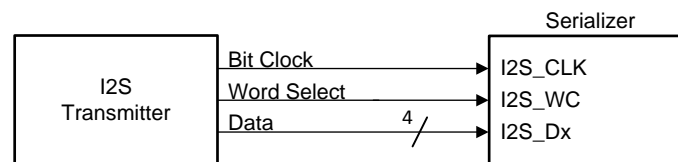
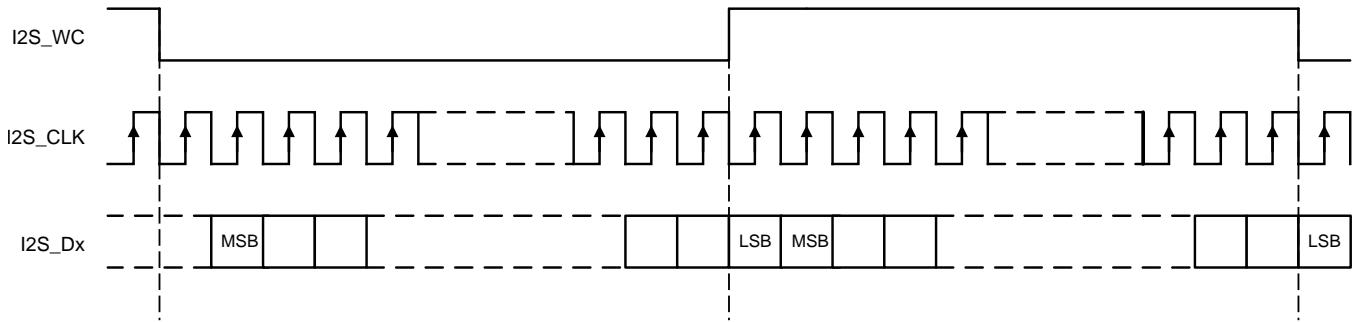

图 15. I2S Connection Diagram
图 16. I2S Frame Timing Diagram
The DS90UB949A-Q1 serializer features six I2S input pins that, when paired with a compatible deserializer, supports 7.1 high-definition (HD), surround sound audio applications. The bit clock (I2S_CLK) supports frequencies between 1 MHz and the lesser of IN_CLK/2 or 13 MHz. Four I2S data inputs transport two channels of I2S-formatted digital audio each, with each channel delineated by the word select (I2S_WC) input. Refer to 图 15 and 图 16 for I2S connection diagram and timing information.